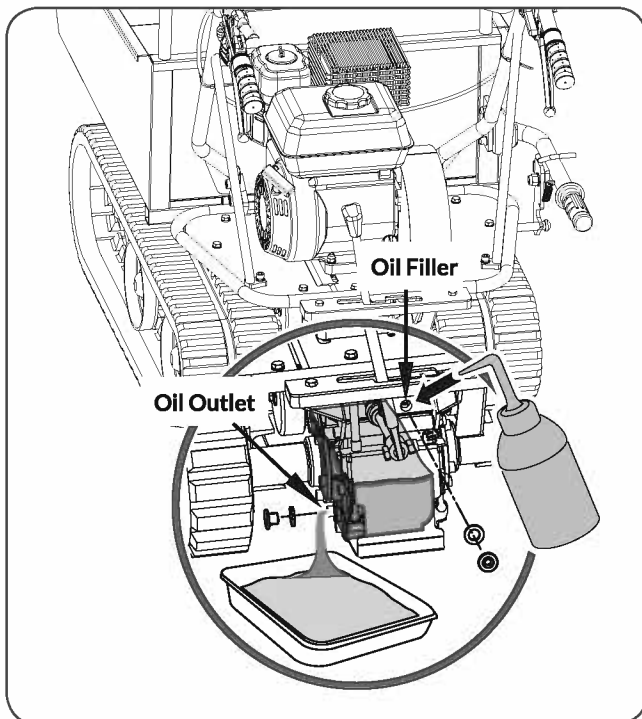

Figure 7
- » Transmission oil must be replaced when engine is stopped and warm by unscrewing filler cap and drain plug. When oil is completely drained, replace filler cap and fill up with fresh oil. (See **Figure 7**)